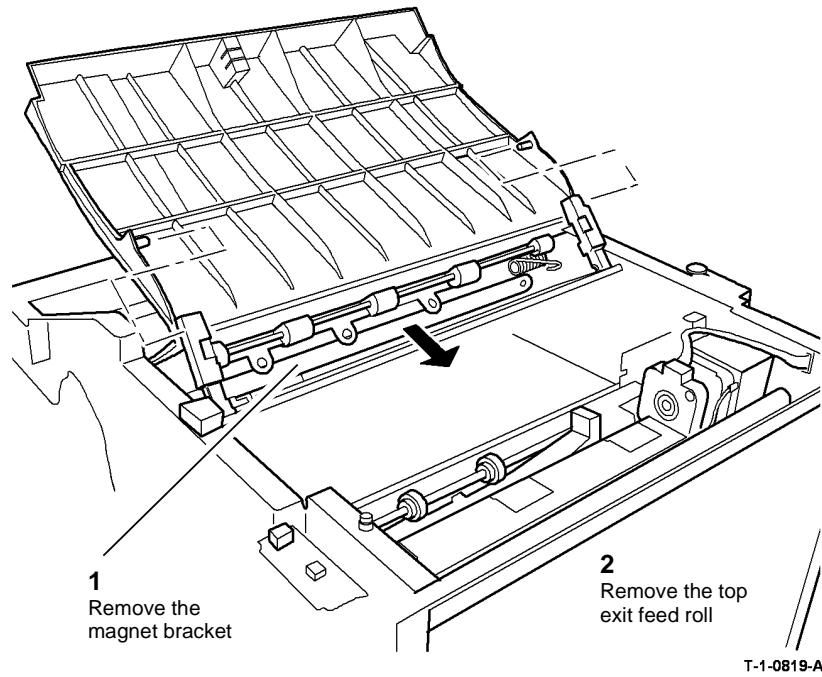

Figure 4 Top exit feed roll removal
6. Figure 4. Remove the top exit feed roll.